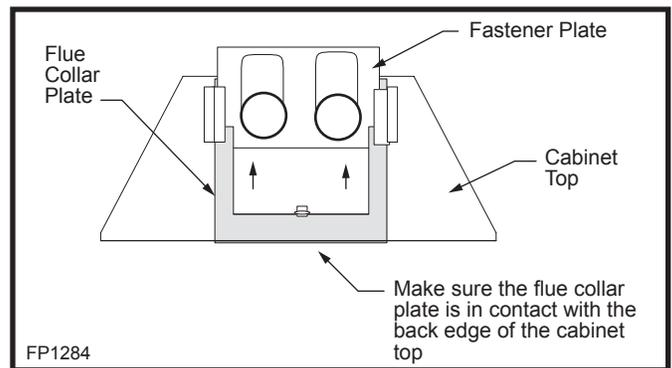

Fig. 16 The flue collar plate must be completely in contact with back edge of cabinet top.
3. After the flue collar plate is set on the cabinet top, make sure the front edge of the flue collar plate is completely in contact with the back edge of the cabinet top. (Fig. 16)